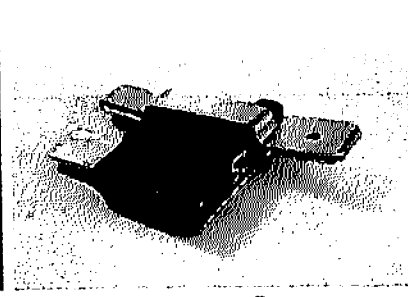

Figure 2
- 2) Remove fuse from fuse holder. Using test light or voltmeter, determine which side of fuse holder is "hot" and which is "cold". The "hot" side will have 12V when vehicle is running. The "cold" side will not (until fuse is re-inserted). Attach fuse tap to "cold" side of fuse. Re-insert fuse into fuse holder. See Figures 2 & 3.